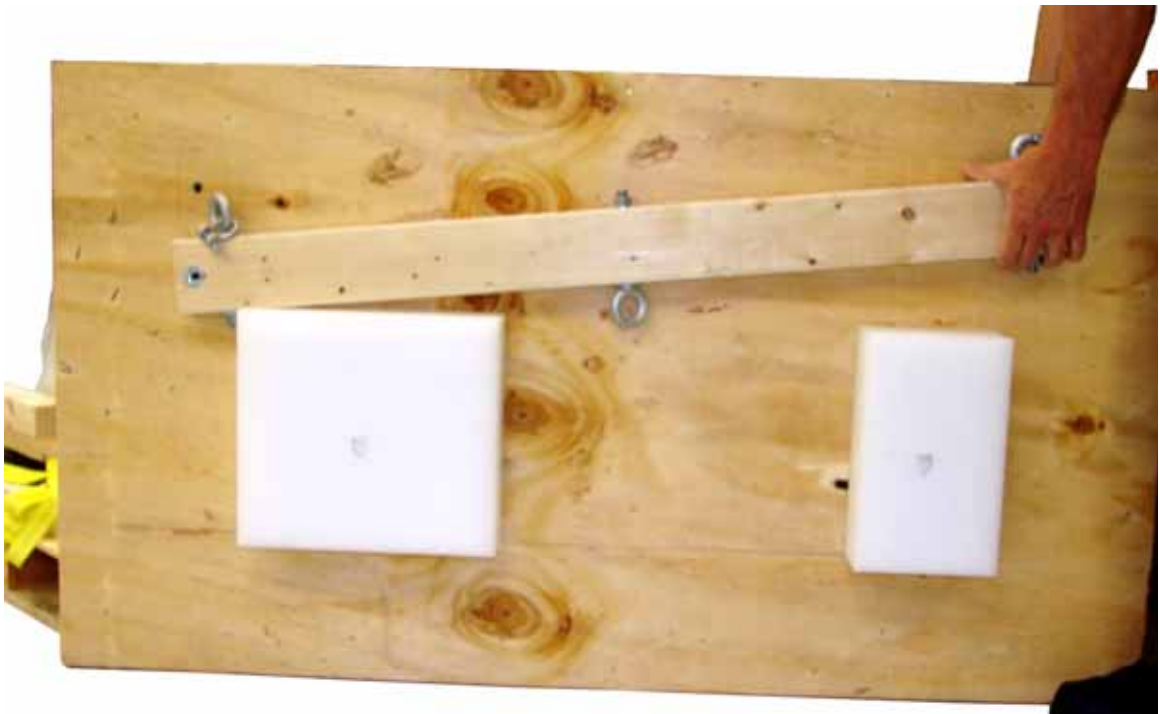

Figure 3-18. Removing Spreader Bar from Crate Cover
12. Using an adjustable wrench, loosen the two (2) bolts that clamp the spreader bar to the underside of the top cover (Figure 3-18). Remove the spreader bar from the crate cover.